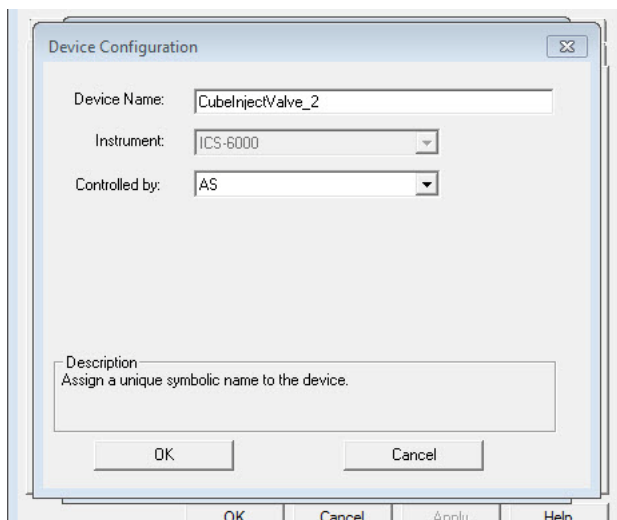

Figure 3-21. IC Cube Valve Configuration Example
- Click **Configure** next to **Valve** and verify that the IC Cube injection valve is assigned to the correct instrument (see Figure 3-21).